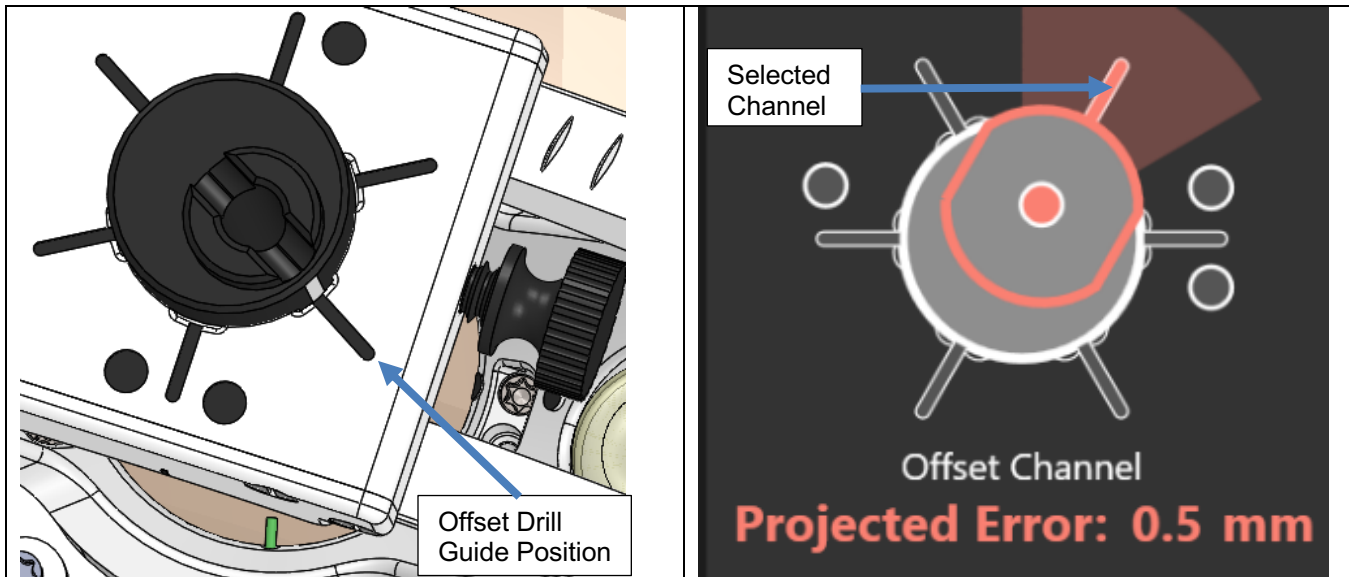

Figure 25: Offset Drill Guide inserted into the position that was selected in the ClearPoint Array Software
5. Verify that the Drill Guide is positioned in the channel selected in the ClearPoint Array software. The orientation dots on the tower match up with those shown on the software. **See Figure 25.** If it is not, loosen the tower side thumbscrew, raise the Drill Guide and rotate it until the tab (white line) aligns with the correct position. Then, repeat Step 4.